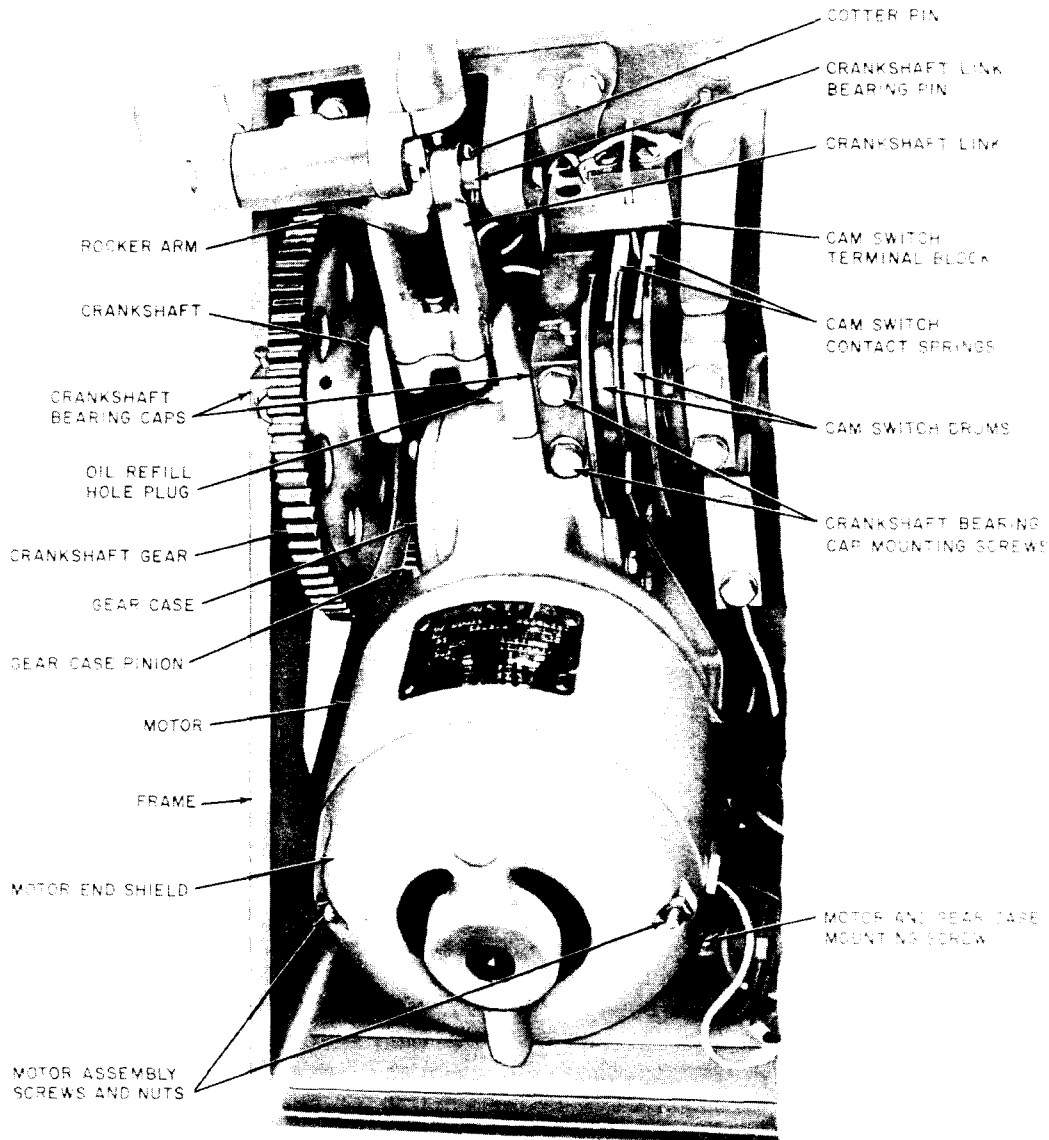

Fig. 3—Portion of KS-5502-Type Motor-Driven Switch Showing Motor and Crankshaft Assembly
(d) Gear Case, Gear Case Pinion, and Crankshaft Gear: Fig. 3
- (a) **KS-5502 Motor-Driven Switch:** Fig. 3—The cam switch drums and cam switch contact springs shall be clean. Alignment of contact springs shall be parallel to but shall not touch or rub on insulating barriers.
- (a) **KS-5502 Motor-Driven Switch:** Fig. 3
- (1) The pressure of each cam switch contact spring against the insulated depression on the cam switch drum shall be 1 1/2 to 2 pounds at tip.
- (2) To check the requirements, remove the motor fuse and control circuit fuse for the switch from the battery control board of the associated plant to remove voltage from the cam switch. Then loop string under each contact finger adjacent to contact face and lift perpendicularly with spring balance until contact opens on switch drum. Lifting force
(a) **KS-5502 Motor-Driven Switch:** Fig. 3—The limit switches shall meet the requirements for the 378A key (bottom limit switches) and 392A key (top limit switches) covered in Section 032-711-701.